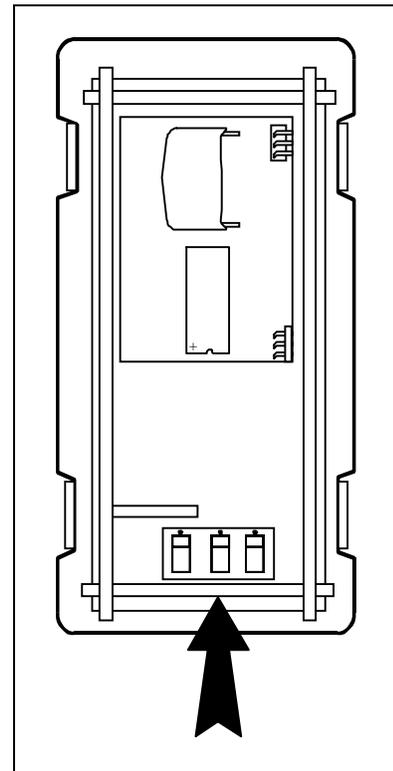

Figure 2-8
20. Looking at the back of the module, set all three of the DIP switches at the bottom of the chassis to the ON position (up as shown in Figure 2-8).